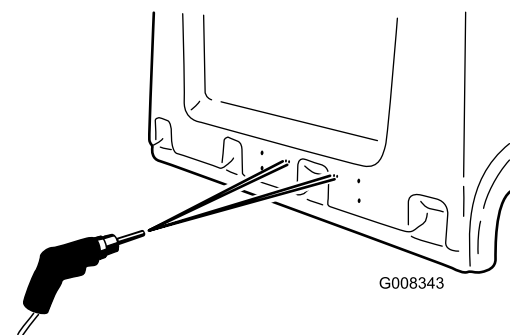

Figure 5
5. At the (4) inner locations previously marked on the hood (Figure 5), drill .203 inch diameter pilot holes.